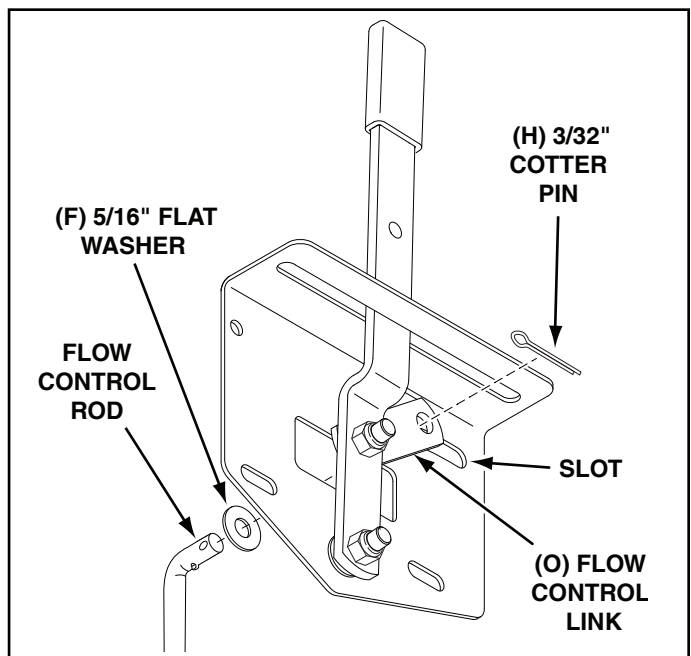

FIGURE 8
17. Place a 5/16" flat washer (F) onto the end of the flow control rod. Insert the end of the rod through the slot in the flow control mounting bracket and through the hole in the flow control link (O). Secure with a 3/32" x 3/4" cotter pin (H). See figure 8.